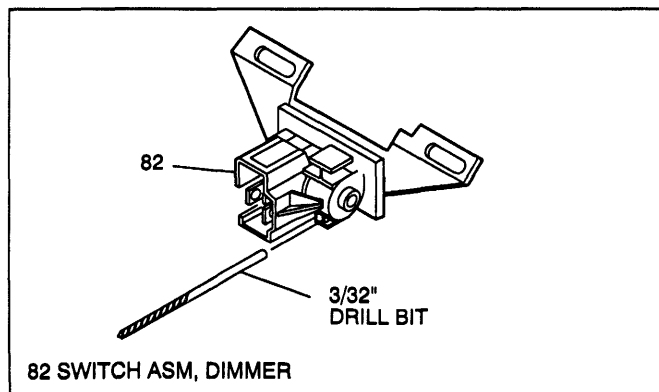

Figure 23 - Adjusting Dimmer Switch
- Dimmer switch (82). (See Figure 23)
- B. Position switch on column and push against dimmer switch rod (77) to remove all lash.